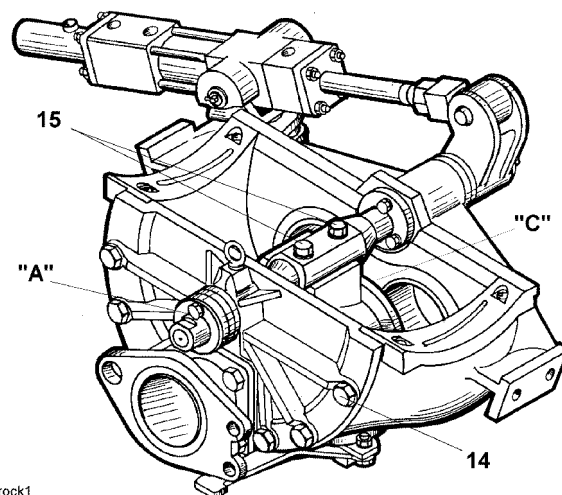

Fig.: 4
- Check the tightness of the cover screws 14 (Fig.: 4) regularly and clamping screws of the swivel head 15 (only "large rock") according to maintenance schedule.